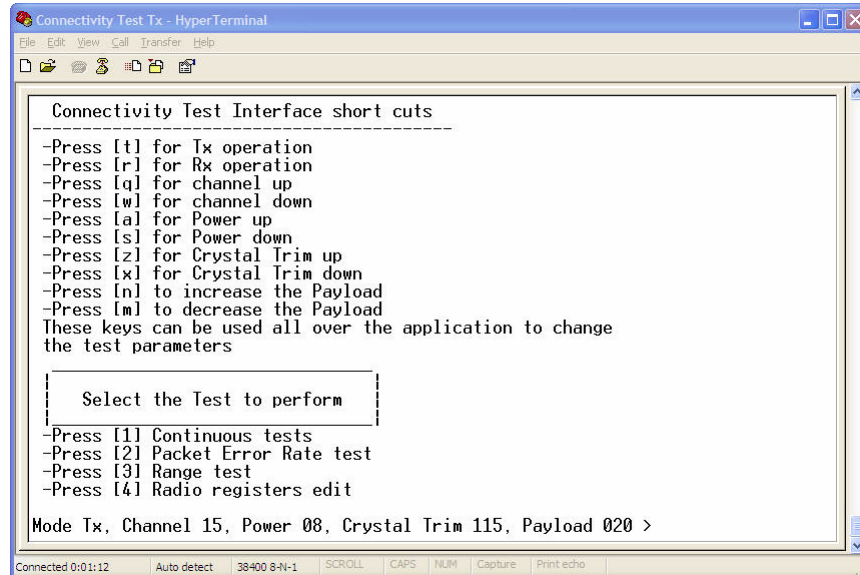

Figure 3-2. Connectivity Test Main Menu
The terminal appears as shown in Figure 3-2. The first list details key shortcuts available at any screen, then the main menu appears. The last line shows the current configuration.
2. Use the shortcut keys as shown in Figure 3-2 to configure the role (TX or RX), channel, power level, crystal trim and payload length as needed.